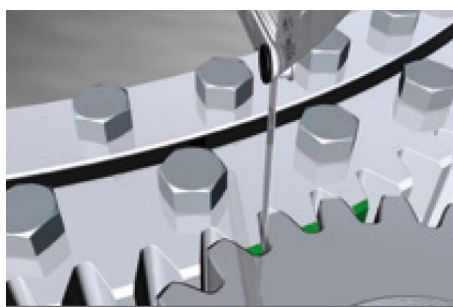

Figure 1. Clearance measurement between flanks
On the assembly it is important to ensure the clearance between the flanks at the 3 teeth marked in green. This clearance should be between 0.03-0.04 times the module. After the bearing has been tightened definitively, the flank clearance must be checked again along the entire circumference. *"Figure 1. Clearance measurement between flanks"*
- Use a gauge to measure the gap between the two teeth *"Figure 1. Clearance measurement between flanks"*